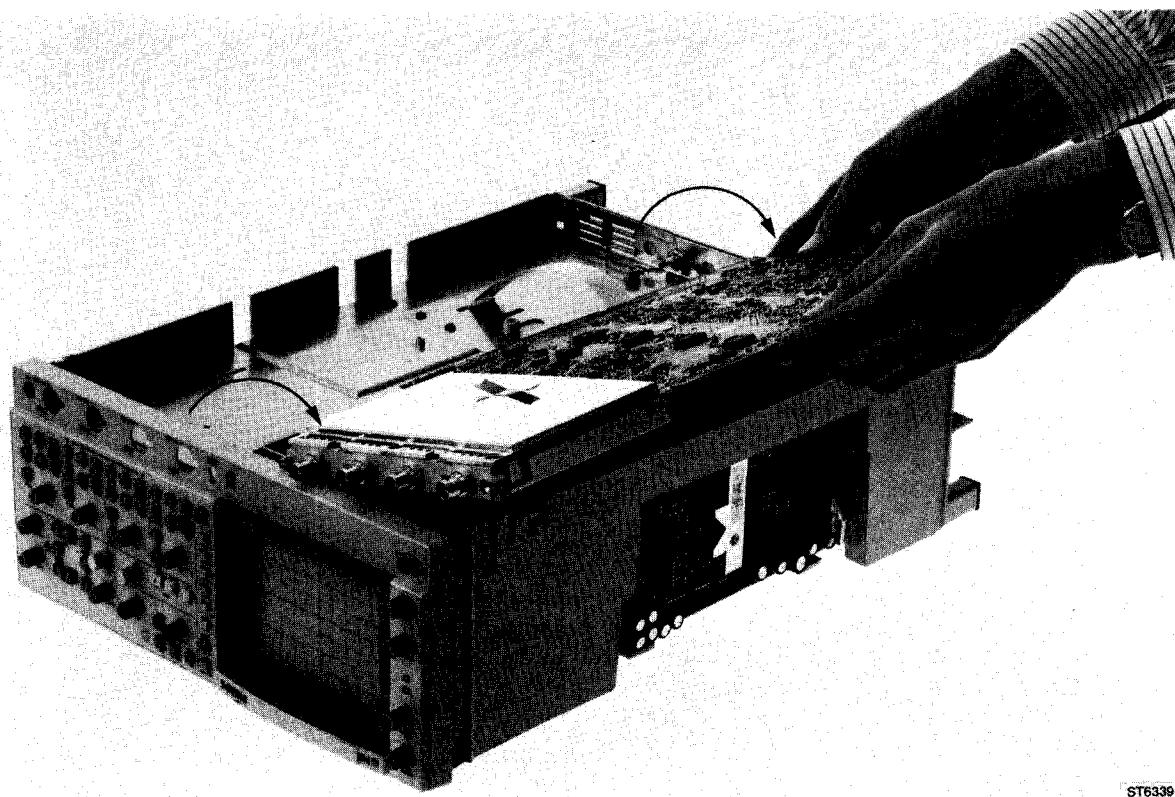

Figure 8.3 Signal unit in position to measure SMD component side
*NOTE: The unit can be put now in an inclined position as shown in figure 8.3. Measuring on the SMD-component side in working condition is possible then. Measuring the output wires that lead to the X- and Y-deflection plates is possible with a 10 kΩ damping resistor between measuring point and probe tip. This avoids oscillations.*